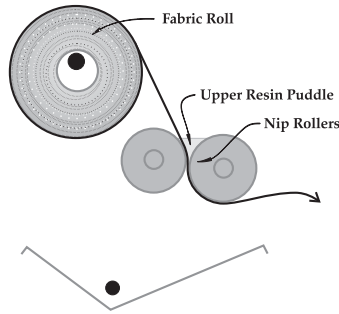
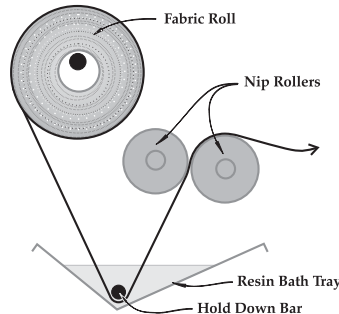
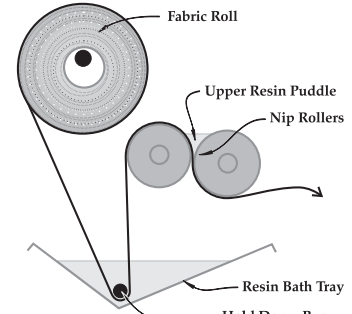

Figure 1. Very light fabrics
Figure 2. Light and medium fabrics
Figure 3. Heavy fabrics
**Model 892-34**—The 34" wide, model 892-34 impregnator is intended primarily for the custom builder, using unidirectional materials. Generally, unidirectional reinforcements are used in a 24" to 25" width, so this machine is perfect for these materials as well as woven and stitched materials. Fabric weights up to about 30 oz./sq. yd. can be used in this machine. The hand crank drives one of the nip rollers, and a gear linkage drives the other, so both rollers are positively driven. Roller gap is controlled by an adjustment screw on the roller stop. Adjustable dams in the resin bath and on the nip rollers allow for a range of fabric widths and weights. Narrow tapes and very light fabrics can travel down through a resin puddle in the nip rollers rather than using the resin bath (Figure 1). Light and medium fabrics pass through the resin bath and up through the nip rollers (Figure 2). Heavy fabrics can pass through the resin bath and a resin puddle at the nip rollers (Figure 3). The rollers open to make it easy to load and clean.